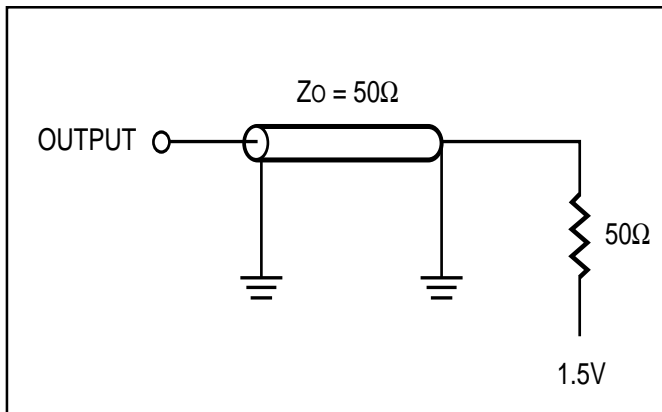

Figure 1
Output Load	See Figures 1 and 2
2. Tested with load in Figure 1,2,3,4..